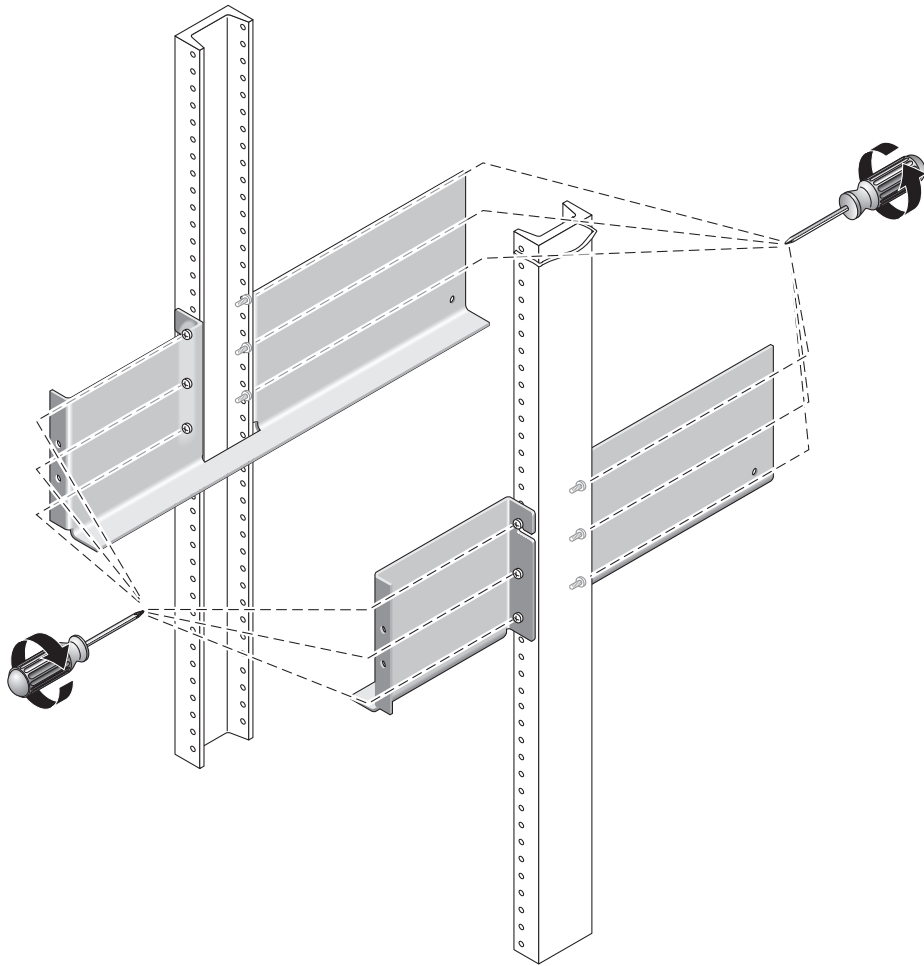

FIGURE 2-22 Tightening the Screws of the Left and Right Rails
4. Using the #3 Phillips screwdriver, tighten all twelve screws (six on each side) at the front and back of both mounting rails to secure each rail to its post (FIGURE 2-22).